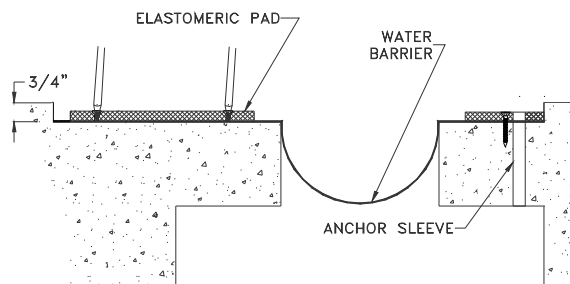

Figure 11
**STEP 22.** Put the pad into its installed position. Ensure that the pad is properly aligned. Using the pad as a template, mark the locations for the fastener holes on the substrate (water barrier or fire barrier retainer), (see Figure 11).